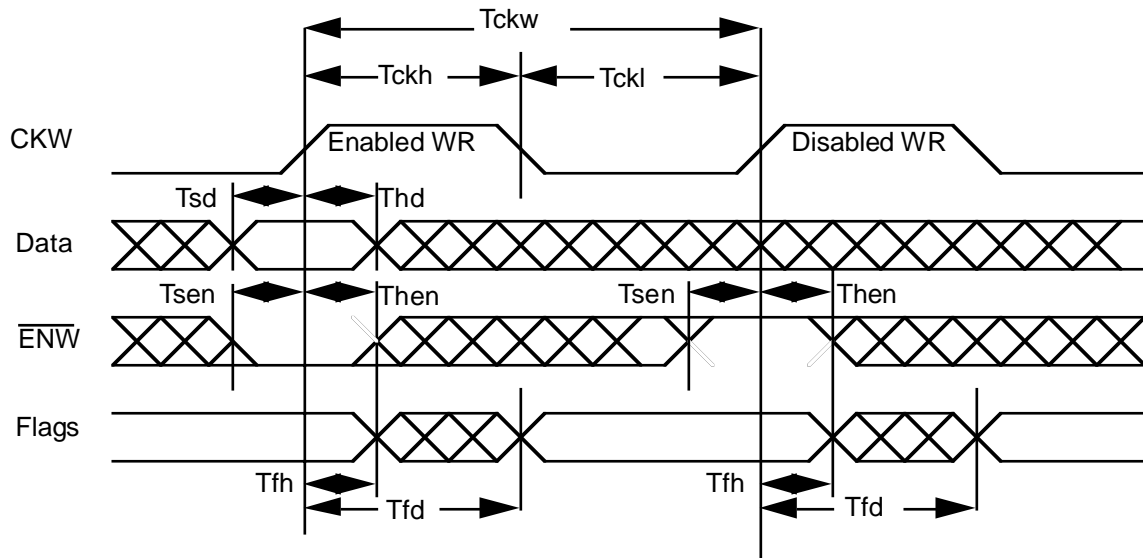

Figure 1. Write Timing
- (1) Test conditions: input switching levels  $V_{IL}/V_{IH}=0.5V/V_{DD}-0.5V$  (CMOS),  $V_{IL}/V_{IH}=0V/3V$  (TTL), input rise and fall times  $<1$  ns/V, input and output timing reference levels shown in the Tester AC Timing characteristics Table, capacitive output loading  $C_L=50$  pF. For  $C_L >50$  pF, derate access times by 0.02 ns/pF (typical).
- (2) Worst case operating conditions:  $V_{DD}=4.5V$  to  $5.5V$ ,  $TC=-55^\circ C$  to  $+125^\circ C$ , post total dose at  $25^\circ C$ .
- (3) For flag updates,  $tskew1$  is the minimum time an opposite clock can occur after a clock and still not be included in the current clock cycle. At less than  $tskew1$ , inclusion of the opposite clock is arbitrary.
- (4) For flag updates,  $tskew2$  is the minimum time an opposite clock can occur before a clock and still be included in the current clock cycle. At less than  $tskew2$ , inclusion of the opposite clock is arbitrary.
- (5) Timing parameters are defined in Figures 1 through 6.